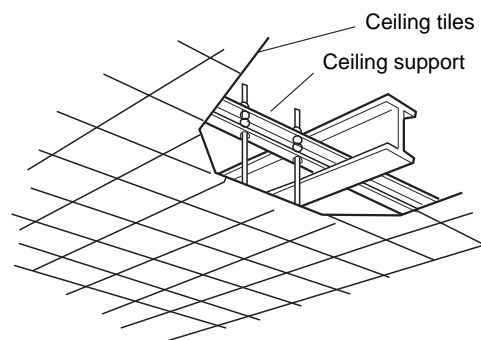

Fig. 3-22
- Use existing ceiling supports or construct a suitable support as shown in Fig. 3-22.